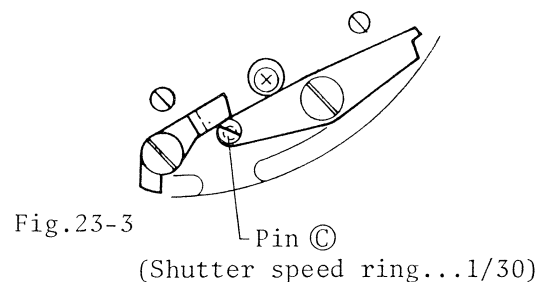

Fig.23-3
2. When shifting the shutter speed ring to 1/30^{sec} the release relay lever should touch ㊹ pin as shown in Fig. 23-3.